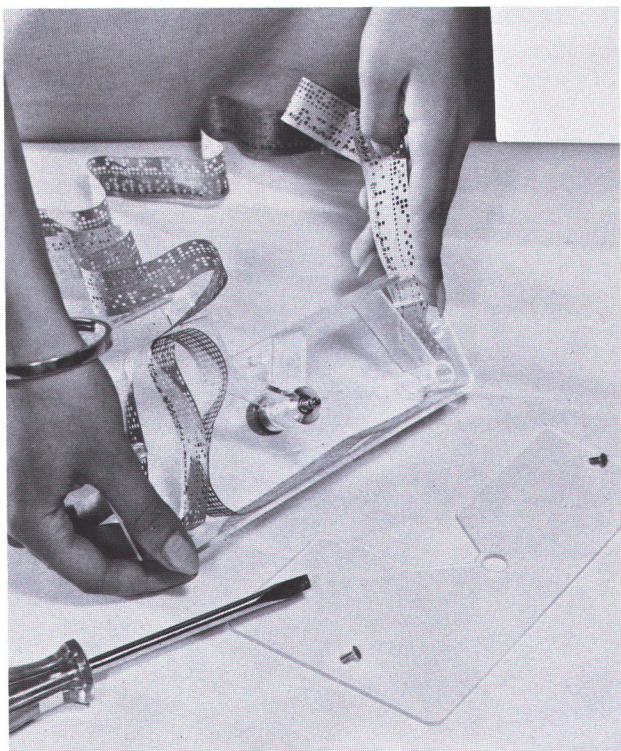

Figure 12.
4. Insert the tape in the cartridge with channel one nearest to the cover and follow the plastic guides. (See figure 12.)